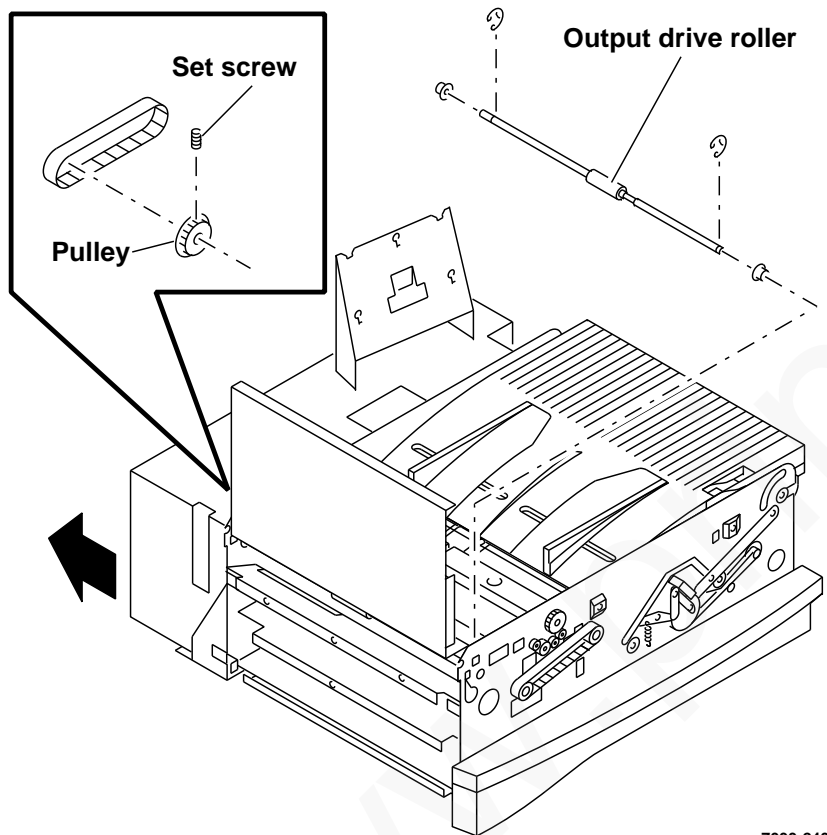

Figure 12. Output drive roller removal
- d. Loosen set screw in output drive roller pulley (Figure 12), and remove pulley.